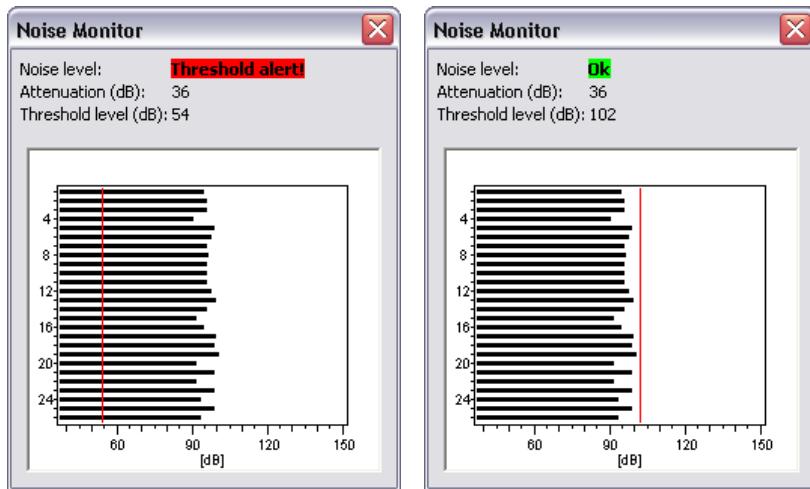

Figure 44 Threshold adjustments
- Adjusting the threshold (Figure 44)
- Activate geophone test relays (Figure 44)